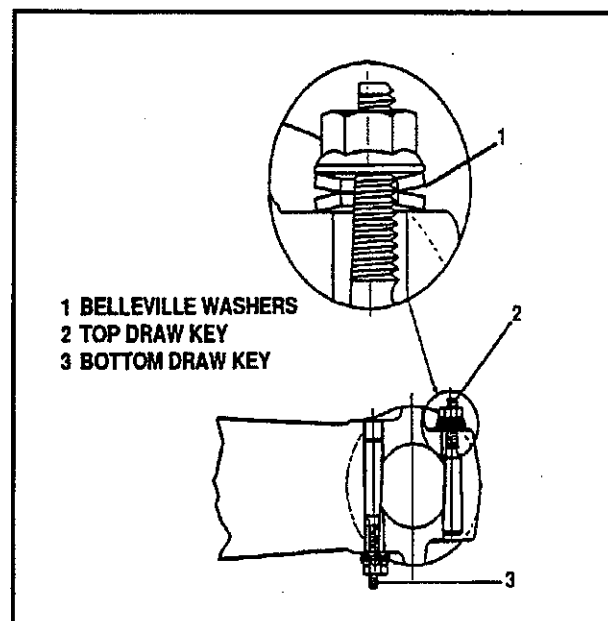

Figure 17—Draw Key Installation to Front of Axle
9. Install the draw keys. (See Figure 17—Draw Key Installation to Front of axle.)